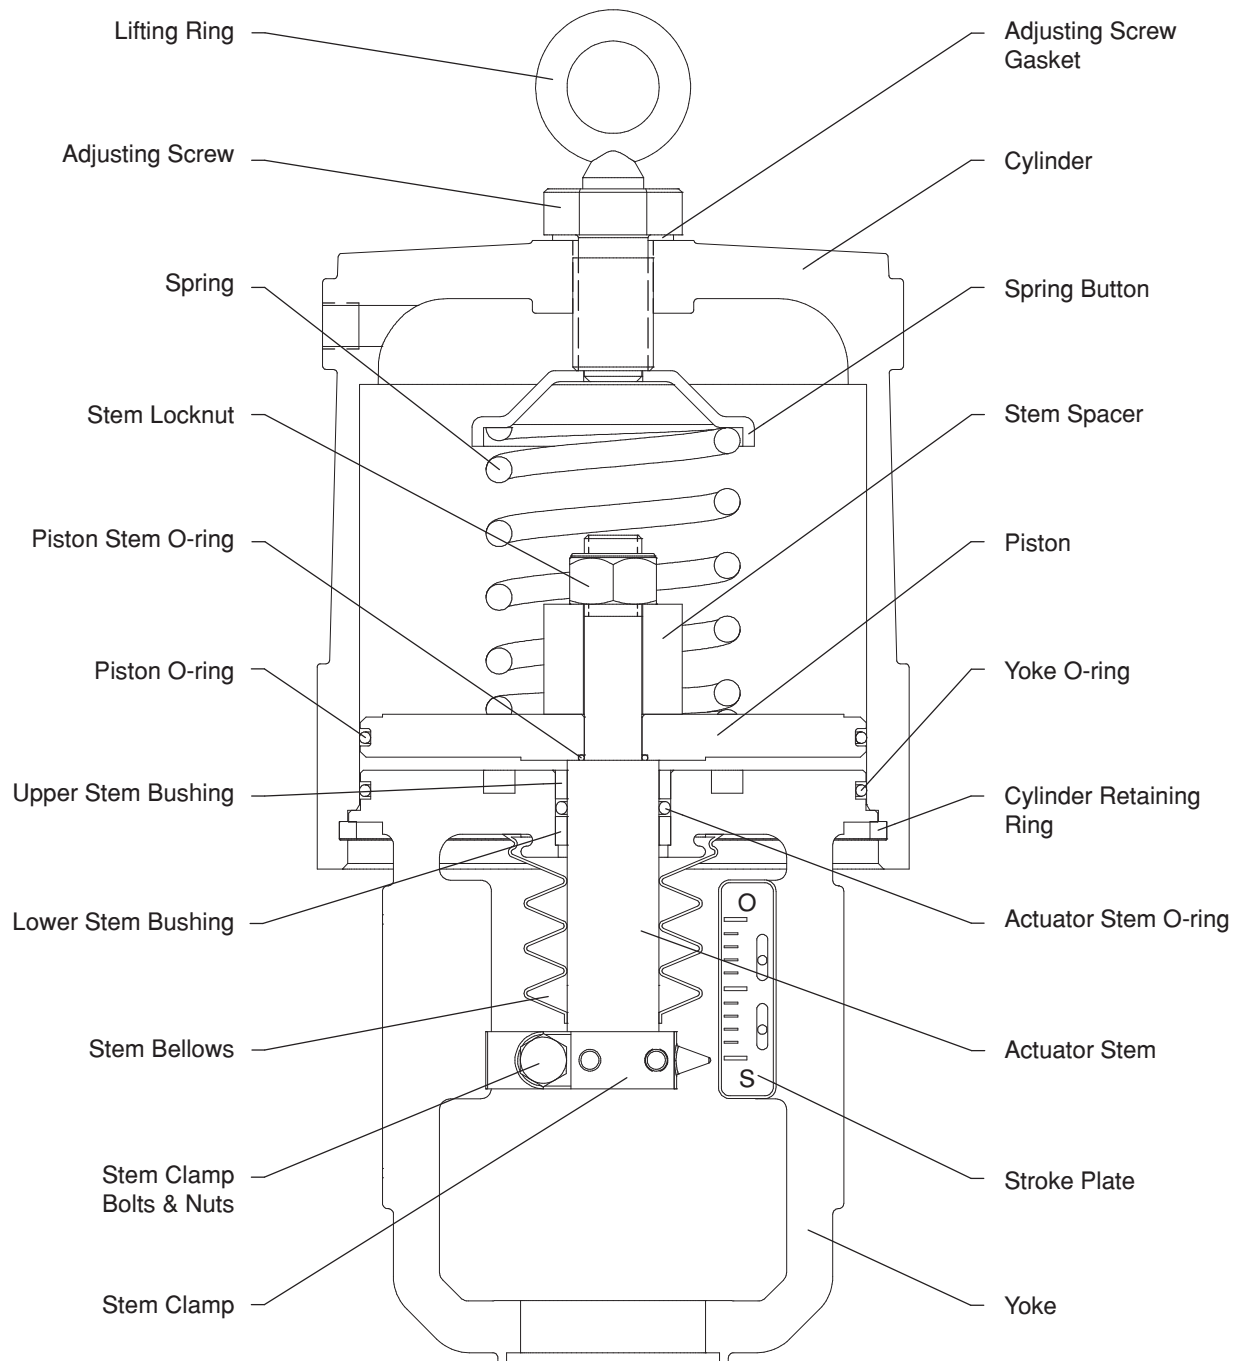

Figure 5 - Spring-Cylinder Actuator (Air-to-Open)
On normally closed valves, the actuator can be disassembled with the actuator yoke still connected to the valve. On normally open valves, the actuator must be removed from the valve before its disassembly. To disassemble the actuator, observe the Figures 5, 6 and 7 and proceed as follows:
- In the “air-to-open” configuration, remove the spring(s) and the spring button for cleaning and inspection (see Figure 5). Remove the locknut and slide the piston and the stem spacer out from the actuator stem. On actuators with dual springs the spring guide must be removed also.
To reassemble the actuator refer to the Figures 5, 6 and 7 and proceed as follows:
- If the bushings have been removed, lubricate the external side of the replacement bushings. Press the new lower stem bushing into the yoke until it touches the bottom shoulder. Press the upper stem bushing until it is aligned with the top of the yoke (see Figure 5 or 6).
- Reassemble the piston, the piston stem O-ring and the stem spacer in the actuator stem, according to the desired air action (see Figure 5 or 6). Replace the piston O-ring. The air-to-extend configuration requires that the spring button be fixed by the actuator stem locknut. Tighten the nut firmly.